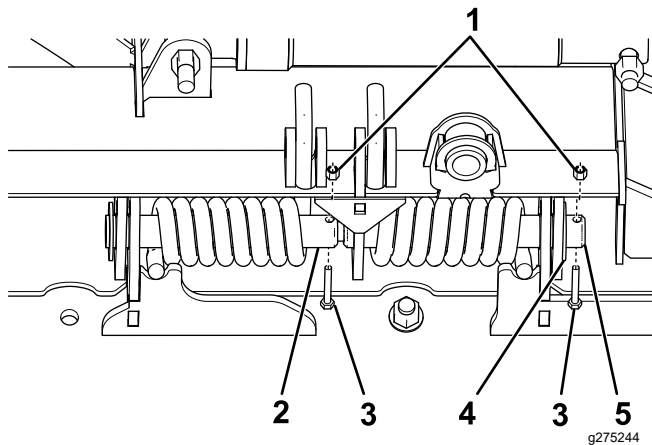

Figure 53
3. Slide the male and female spring pins through the 2 inner springs and secure them using a washer (1-1/4 inches), 2 bolts (1/4 x 20 inches), and nut (1/4 inch) as shown in Figure 53.